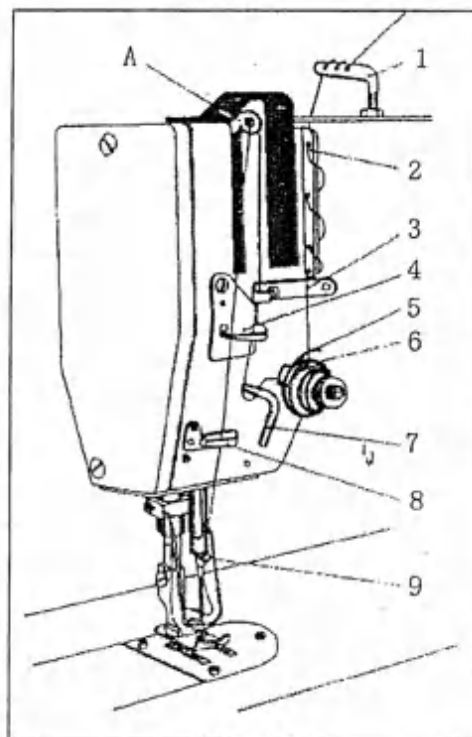

Fig.8
17. To thread upper thread(Fig.8)
Then threading as shown in Fig.8.